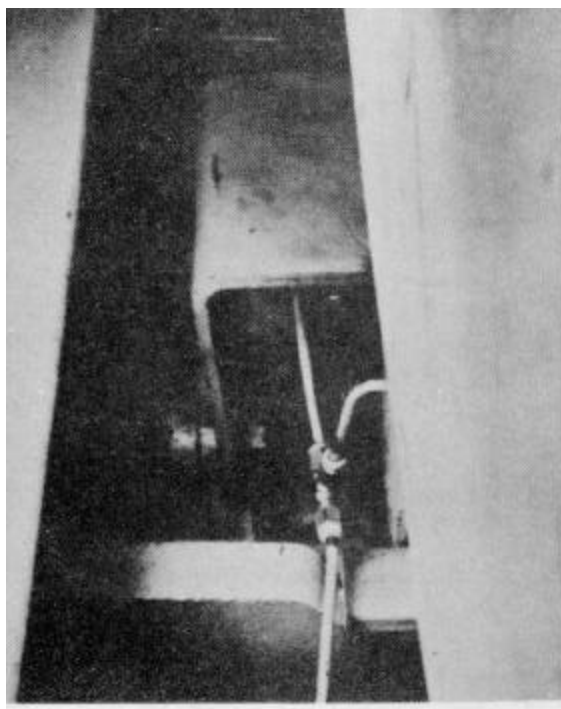

Figure 5-6
13. Remove the (2) drive assembly support bolts (Fig. 5-6, 5-7 and 5-8).